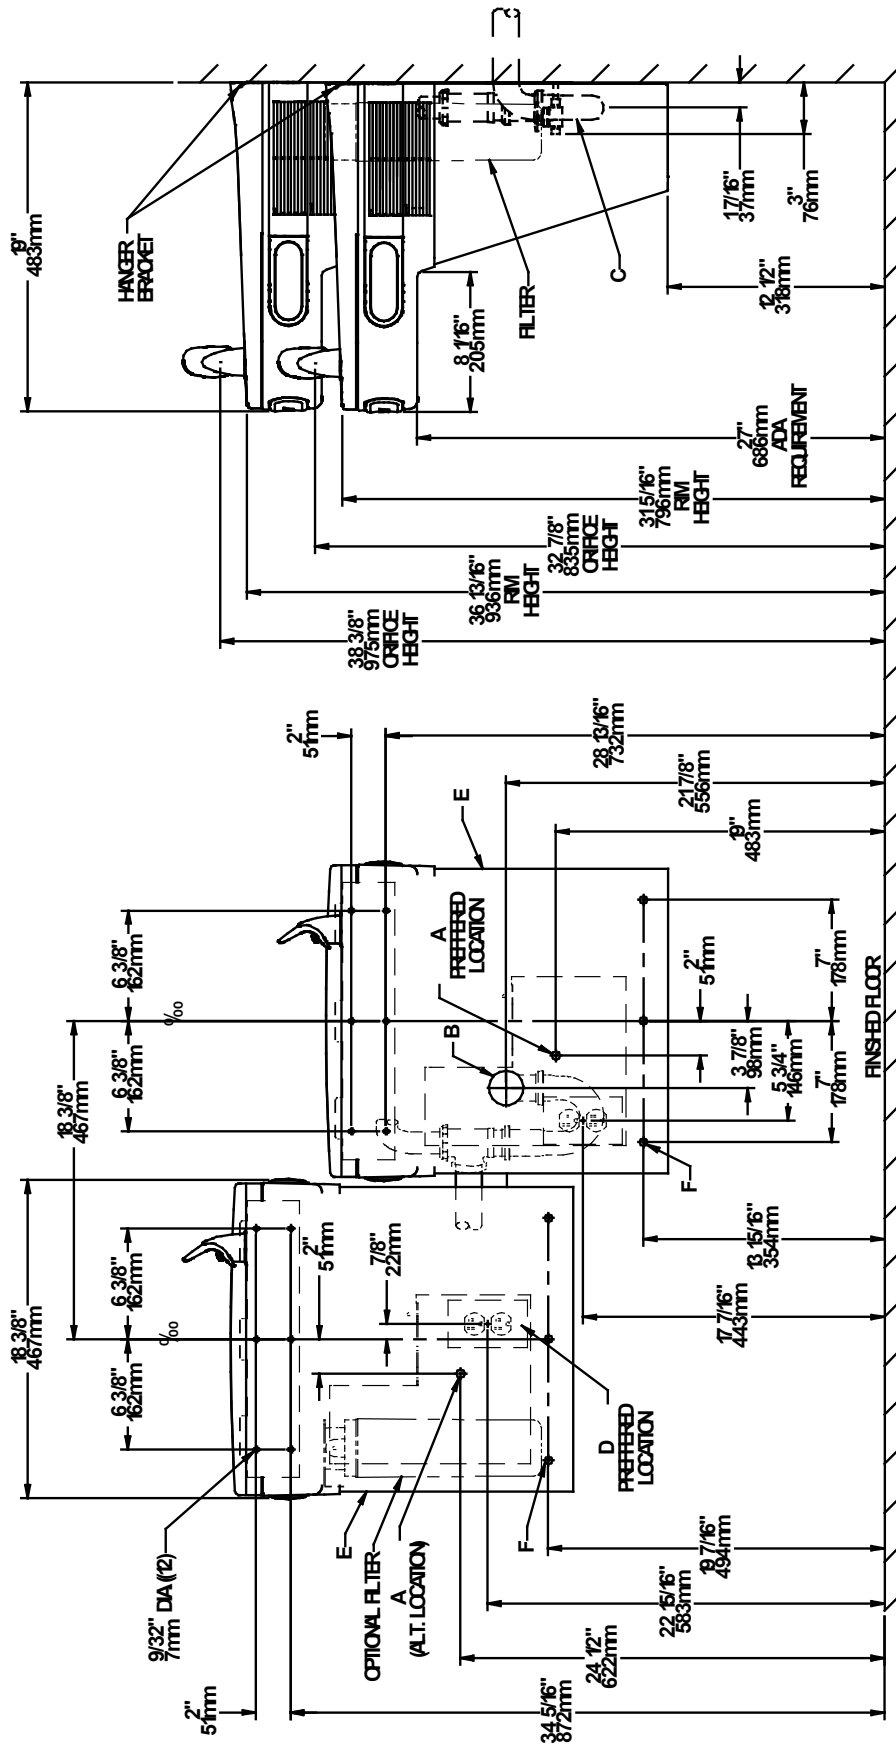

FIG. 2
- 1) Remove hanger brackets fastened to back of cooler by removing one (1) screw.
- 2) Mount the hanger brackets as shown in Figures 2 or 3.
- 3) Hang the cooler on the hanger bracket. Be certain the hanger bracket is engaged properly in the slots on the cooler back as shown in Figures 2 or 3.
- 4) Remove the four (4) screws holding the lower front panel at the bottom of cooler. Remove the front panel by pulling straight down and set aside.
- 1) Retire el soporte fijador que se encuentra conectado a la parte posterior del enfriador sacando un (1) tornillo.
- 2) Monte el soporte fijador de la manera descrita en Fig. 2 y 3.